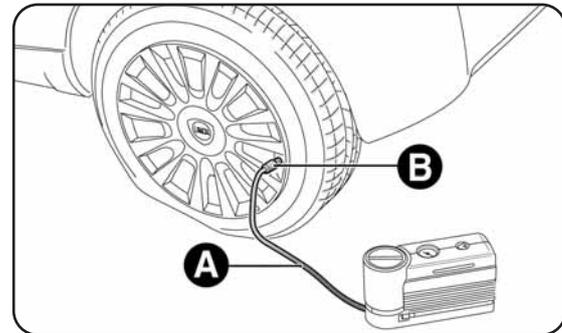

fig. 4
- Engage the handbrake. Unscrew the tyre valve cap, take out the flexible filler pipe A-fig. 4 and tighten the ring nut B on the tyre valve;